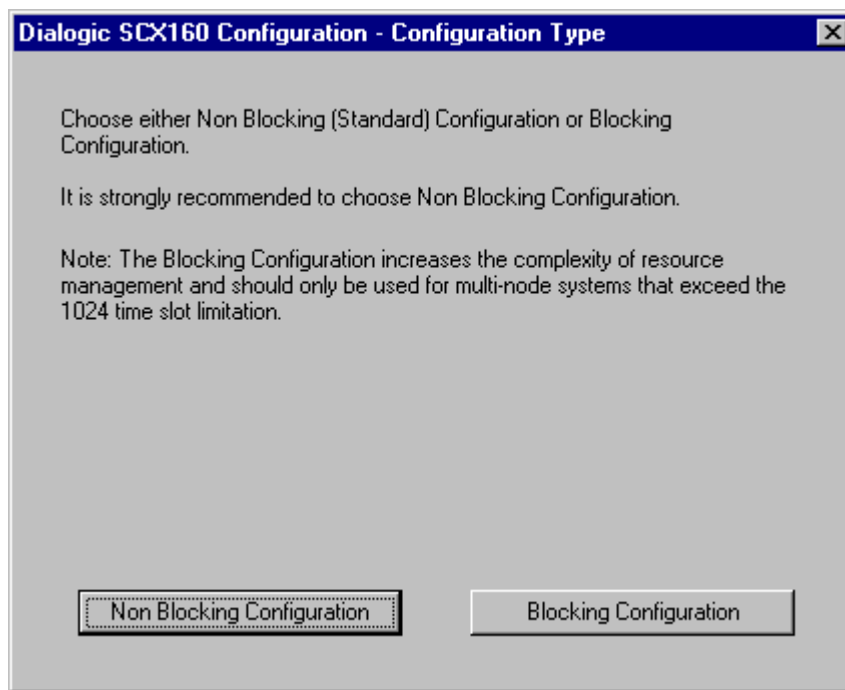

Figure 31. Configuration Type Window
11. Click on **Next>** to continue. This opens *Figure 31. Configuration Type Window*.
12. *Figure 31. Configuration Type Window* prompts the user to select either the Non-Blocking (Standard) Configuration or the Blocking Configuration. For the Standard Configuration, continue with *Step 13*. Otherwise, skip to *Step 17*, Blocking Configuration.
At the *Configuration Type Window*, *Figure 31*, select **Blocking Configuration** and *Figure 34. Blocked Streams Information Window* displays: